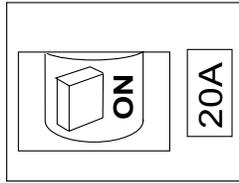

Figure 15. Main Circuit Breaker (ON)
- Place main circuit breaker (Figure 15) in the **ON** position.